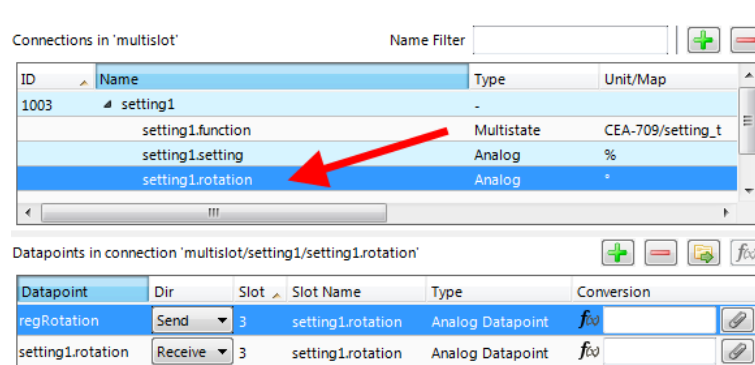

Figure 82: Add data point to connection slot.
6. Connect other data points to existing slots by dropping them onto the respective slot. For example, connect the register 'regRotation' by dropping it onto 'setting1.rotation' as depicted in Figure 82.